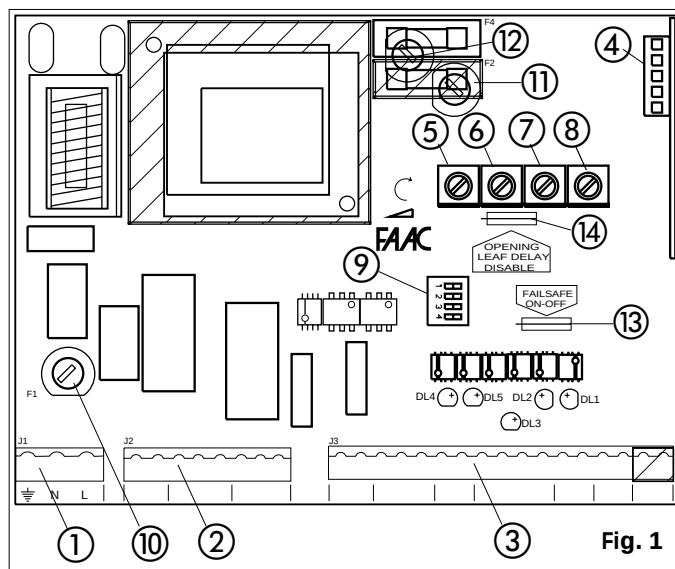

Fig. 1
Fuses	N. 3 (see fig.1)
The 410 MPS card has an additional FAIL-SAFE device which serves to check that the N.C. contact on the photocell receiver is working efficiently before any operation(Can be disabled through bridge Fig. 1 ref.13) .